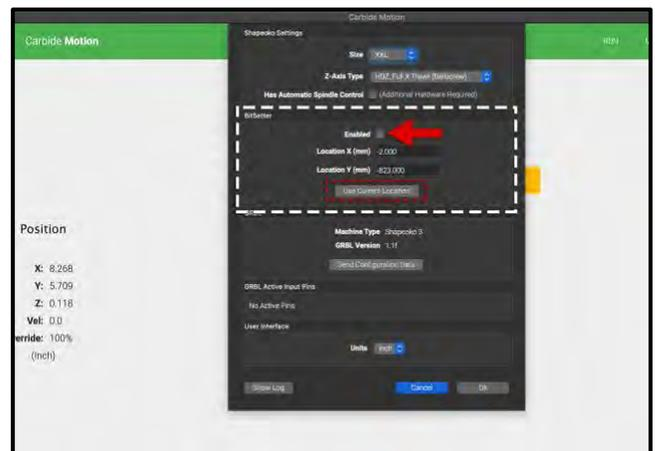

Figure 47
2. Recalibrate your BitSetter. See *Fig. 47*.